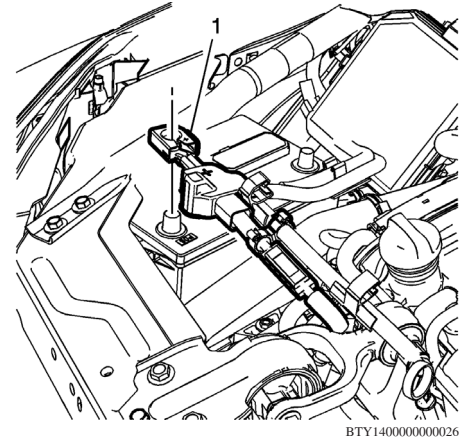

Fig. 5 Battery positive cable clamp release
9. Open positive battery cable terminal cover and release positive cable clamp (1), **Fig. 5**.
4. Install positive battery cable clamp (1) to battery positive post and **torque** to 89 inch lbs., **Fig. 5**.